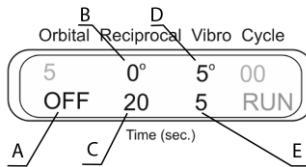
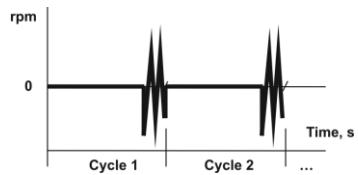

Figure 10
Figure 11
6.9.4 **3D vibro + pause** (fig. 10). Turn off 3D orbital motion by setting time of 3D orbital motion to zero (A, OFF). Set the angle of 3D reciprocal type motion to zero (B). Set the time for 3D reciprocal motion (C, 1–250 s), this is the duration of the pause. Set the turning angle (D, 0–5°) and time (E, 1–5 s) for 3D vibro type motion. Figure 11 shows 3D vibro motion and pause run one after another in cycles. Figure 11 shows 3D vibro motion and pause run one after another in cycles.